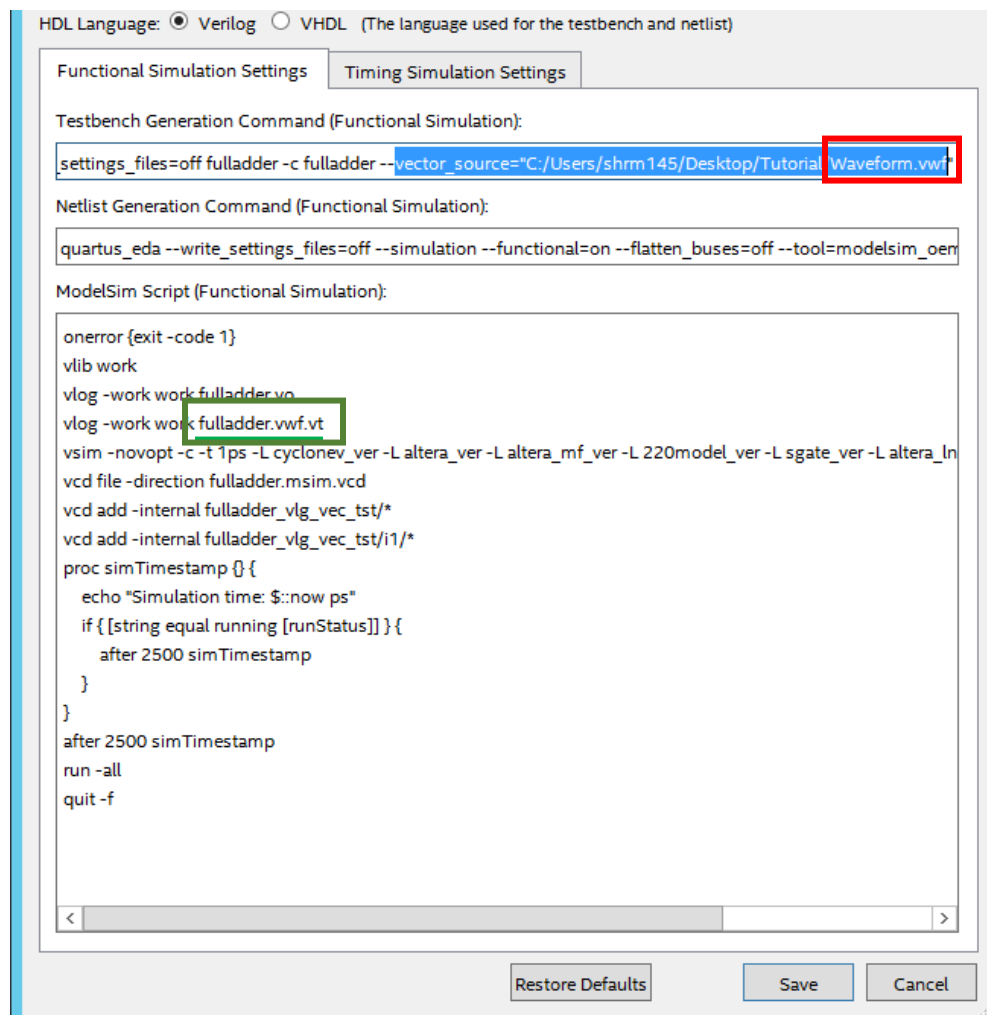

Fig 2b.
- b. In the **Testbench Generation Command (Functional Simulation)**, keep scrolling right until you reach the blue highlighted text, which dictates the file for the “vector-source”. Again, change this from **Waveform.vwf** to **fulladder.vwf** (See Fig 2b.)